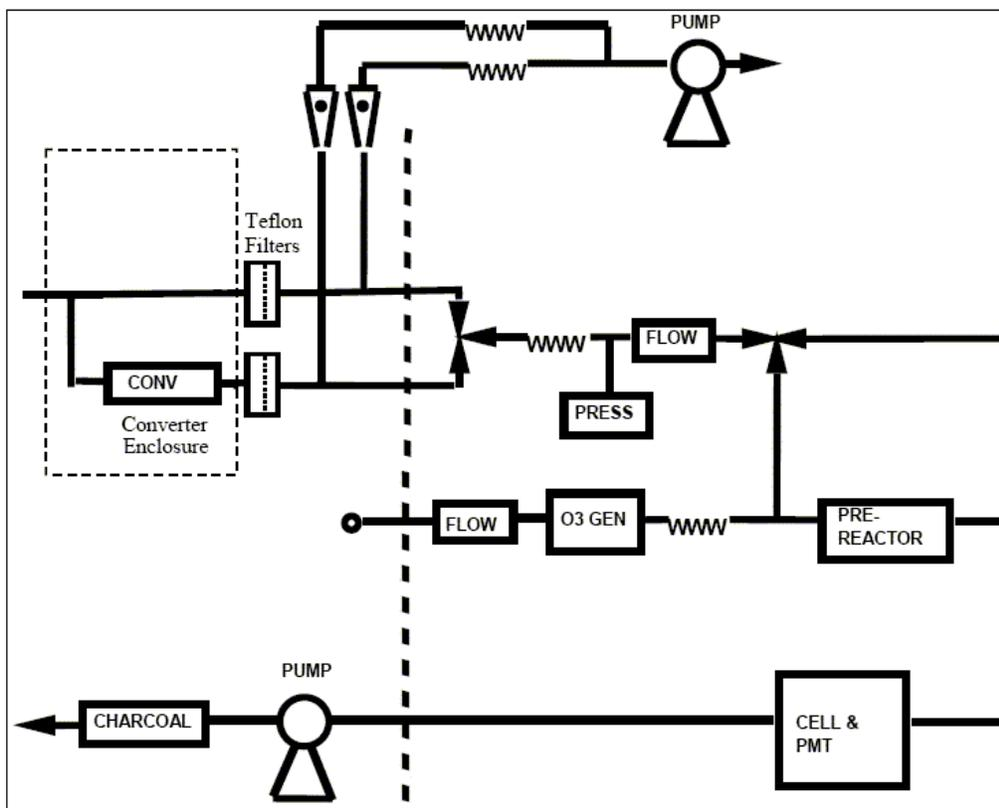

Figure 3-1. Simplified Flow Diagram of 42CY NO_y Monitor
A diagram of the 42CY instrument is presented in Figure 3-1. For the 42CY, ambient sample is first drawn through a short Teflon sample line and split into two parallel flow channels using a ½ inch PFT Teflon tee. Channel 1 passes through a Teflon filter and then directly to the monitor. Channel 2 first passes through a catalytic converter before going through a Teflon filter to the monitor. Flow from each channel is alternately fed to the reaction chamber to detect the NO. The converter is operated outside of the analyzer, close to the ambient sampling point. This allows for a short flow path upstream of the converter and minimizes the loss of species such as HNO₃. In addition to alternating flows from Channel 1 and Channel 2 to the reactor, the analyzer also alternates a flow of internal zero air, produced by pre-reacting the sample flow with a high concentration of ozone before reaching the chemiluminescent detector. The signal from this zero air stream is used to correct for analyzer drift, and allows the analyzer to achieve very low detection limits (0.05 ppb) compared with standard NO_x analyzers.
Monitoring Apparatus: The design of the 42CY is similar to the 42C with several major variations. A diagram of the 42CY instrument is presented in Figure 3-1. The four main components are:
16. Connect the sample lines to the bypass pump, filters, and analyzer as shown in Figure 3-1.